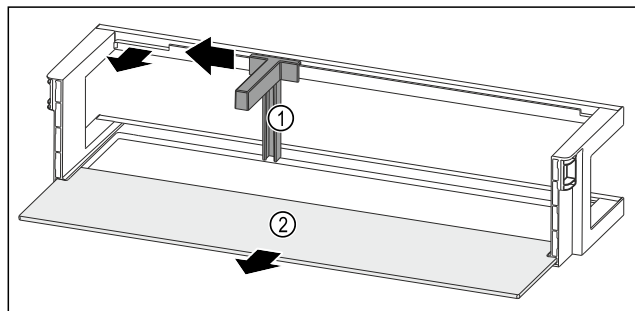

Fig. 160 Door rack with bottle holder and shelf
- ▶ Slide the bottle holder Fig. 160 (1) to the side as far as the recess.
- ▶ Remove the bottle holder Fig. 160 (1).
- ▶ Remove the shelf Fig. 160 (2).